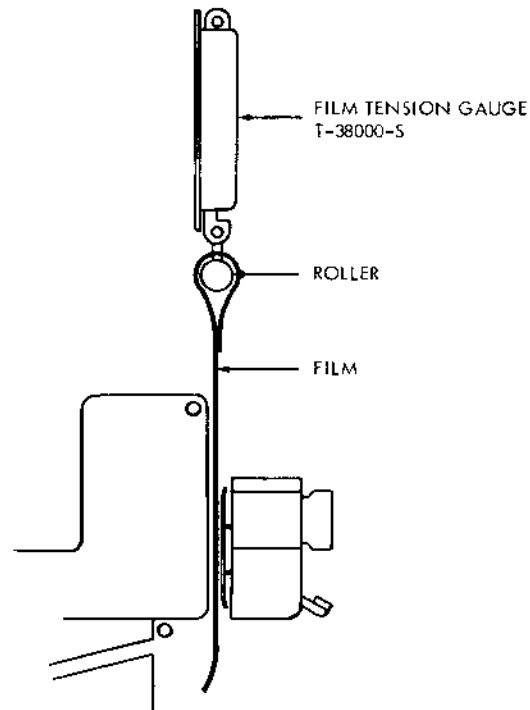

Figure 15C. Gate Tension Measurement
5. Gate Tension Measurement (See Figure 15C)